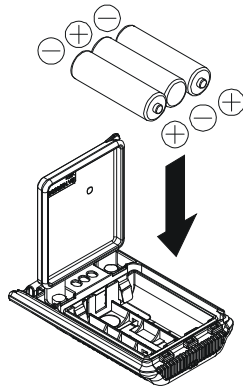

Figure 2
2. Referring to Figure 2, slide the batteries into the **FBA-39** as shown in the illustration, with the Negative [-] side of the batteries touching the spring connections inside the **FBA-39**.